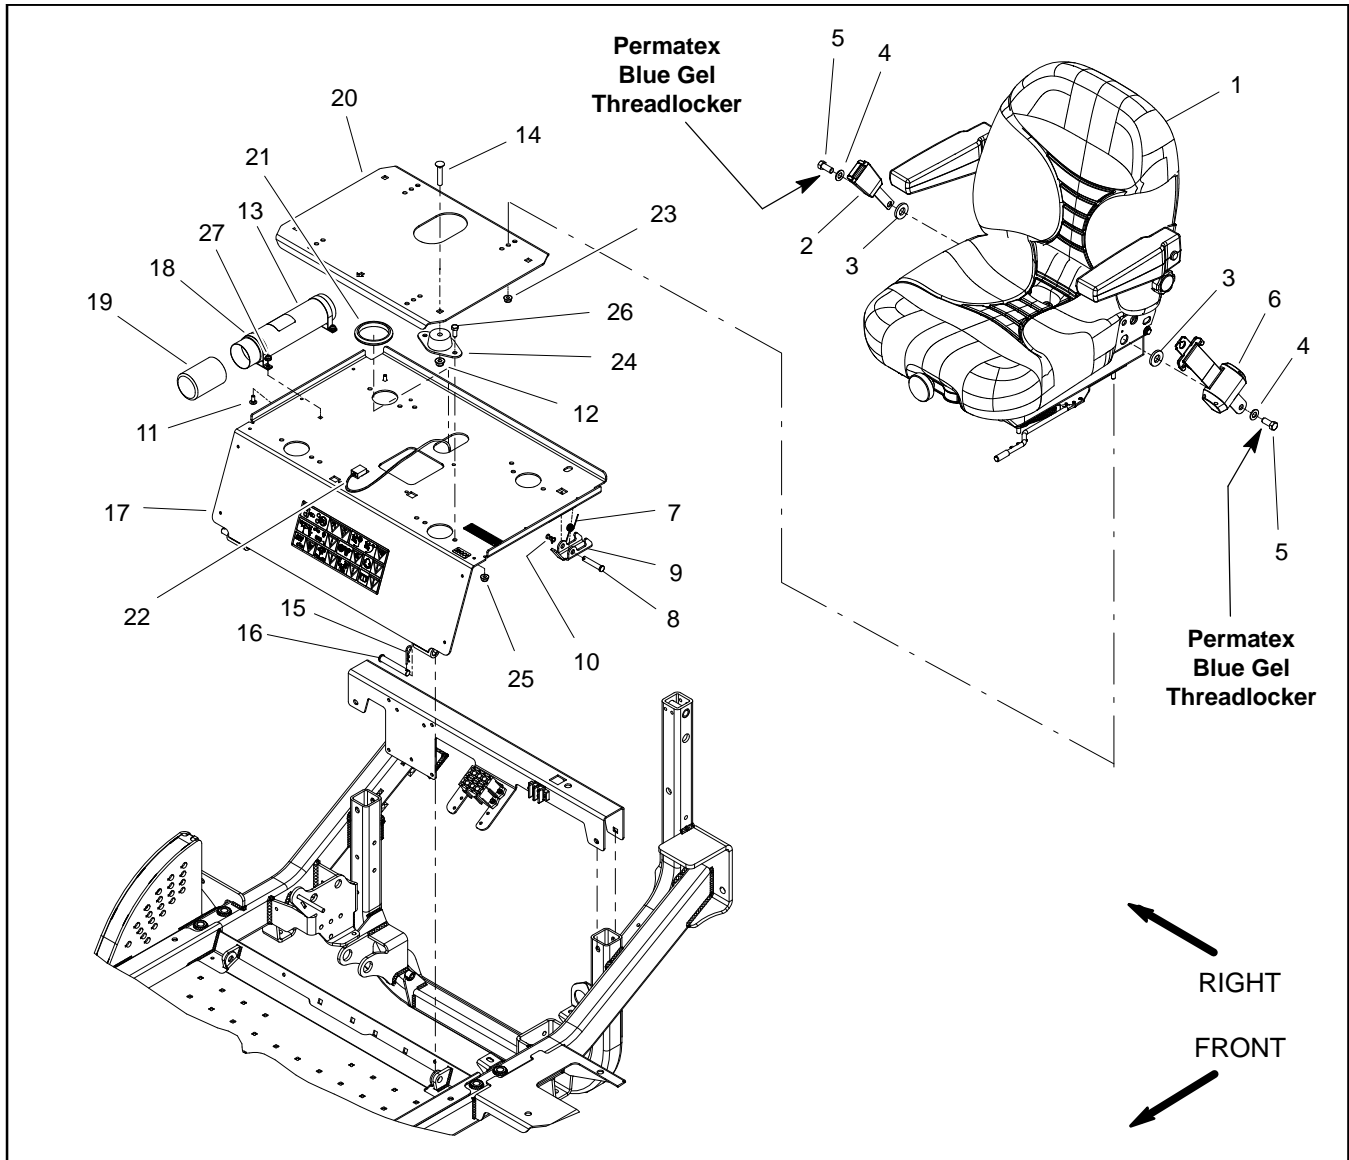
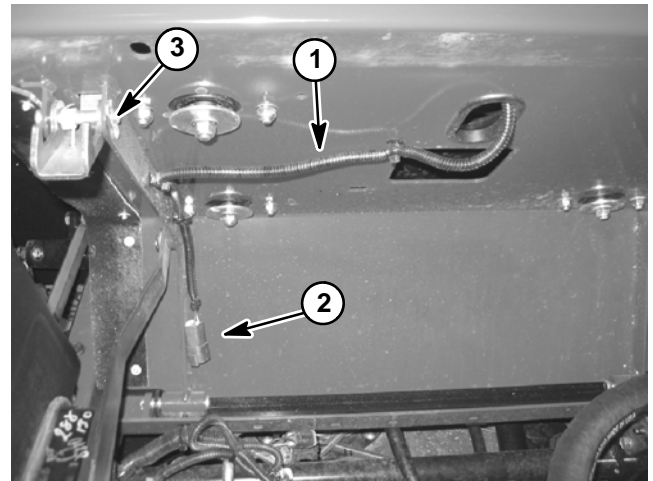

Figure 52
Figure 53
## Removal (Fig. 52)
3. Disconnect machine wire harness electrical connector from the seat wire harness connector (Fig. 53). Note routing of seat wire harness for assembly purposes.
4. Support seat and upper seat plate (item 20) to prevent them from shifting during seat removal.
5. Remove four (4) carriage screws (item 14) and flange nuts (item 12) that secure seat and upper seat plate assembly to seat plate (item 17). Remove seat and upper seat plate assembly from machine.
6. Remove seat parts and seat plate (item 17) as necessary using Figure 52 as a guide.
## Installation (Fig. 52)
1. Install all removed seat parts using Figure 52 as a guide.
- A. If seatbelt (item 6) or seatbelt latch (item 2) were removed from seat assembly, apply Permatex Blue Gel Threadlocker (or equivalent) to threads of cap screw (item 5) before installing screw.
2. If seat plate (item 17) was removed, secure seat plate to machine using Figure 52 as a guide.
3. Position seat and upper seat plate assembly to seat plate. Secure assembly with four (4) carriage screws (item 14) and flange nuts (item 12).
4. Connect wire harness electrical connector to the seat switch harness (Fig. 53).